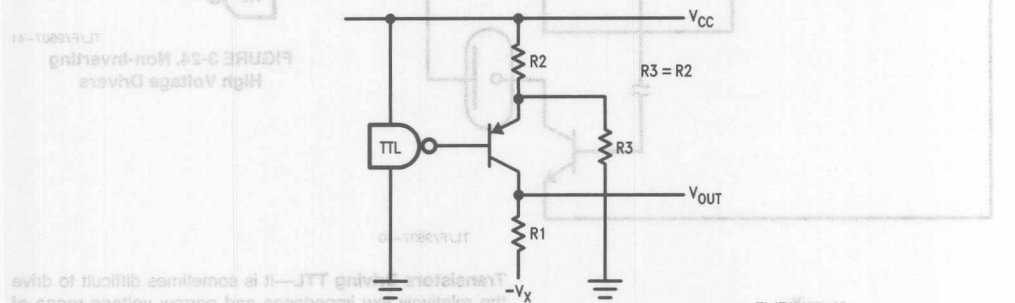

FIGURE 3-23. pnp Transistor Shifting TTL Output
**Shifting a TTL Output to Negative Levels**—The circuit of Figure 3-23 uses a pnp transistor to shift the TTL output to a negative level. When the TTL output is HIGH, the transistor is cut off and the output voltage is  $-V_x$ . When the TTL output is LOW, the transistor conducts and the output voltage is